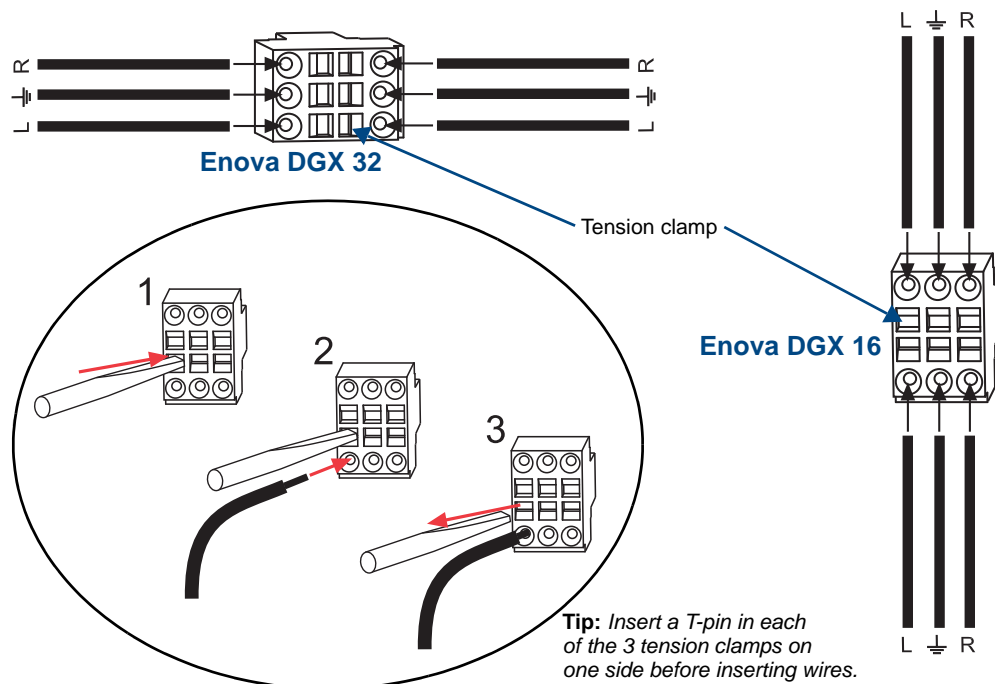

FIG. 59 Audio wiring for AIE Board
- Audio boards and connectors are positioned vertically on the Enova DGX 32 and horizontally on the Enova DGX 16. Be sure to note the labeling for the wiring on the “R” (right channel) and the “L” (left channel) wires in FIG. 59.